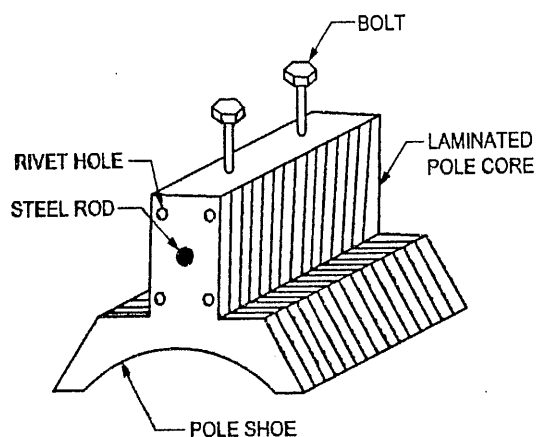

FIG. 4.28.4
- Construction of pole is shown in Fig. 4.28.4.